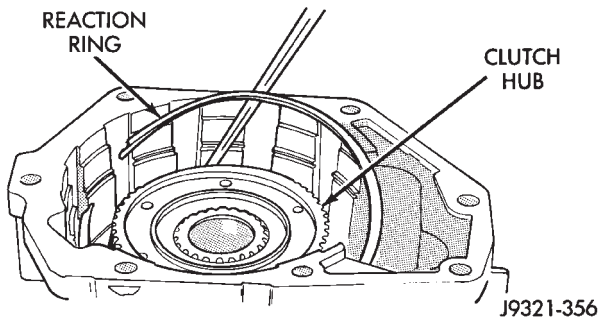

Fig. 244 Overdrive Clutch Reaction Ring Installation
(1) Install overdrive clutch reaction ring first. Reaction ring is flat with notched ends (Fig. 244).